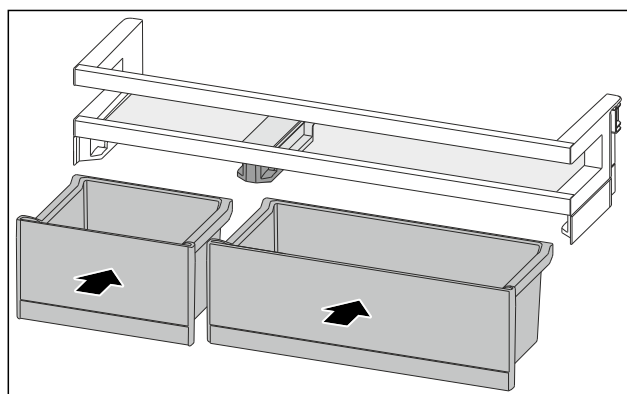

Fig. 84
- ▶ Insert the VarioBoxes in reverse order. (see Fig. 84)